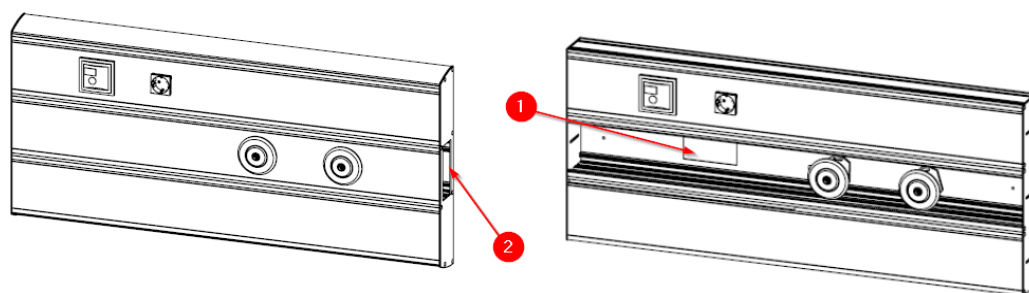

Fig. 1
There are two possibilities as to the location of these inputs, they can be located at the rear of the equipment (1), or they can enter from the sides (2). See Fig.1.